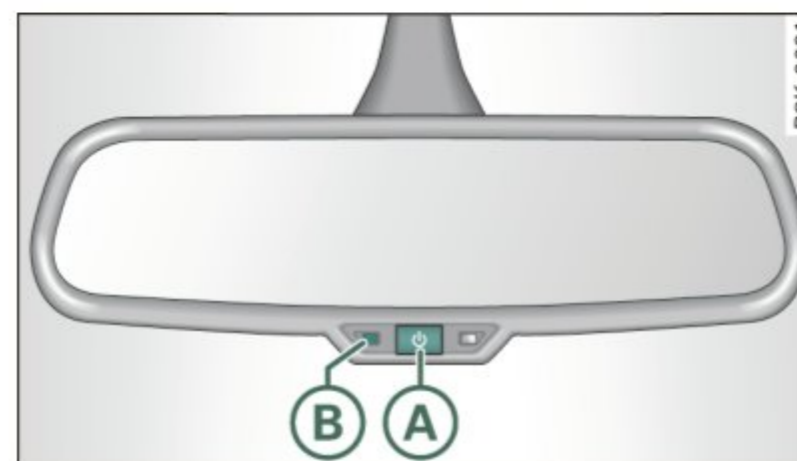

Fig. 64 Inside rear view mirror
- Press button **A** ⇒ fig. 64 briefly, - the indicator light **B** goes out.